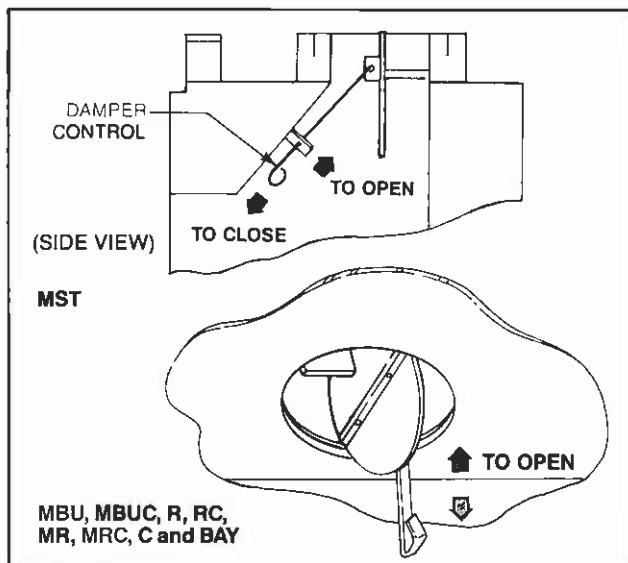

Fig. 13. MBU, MBUC, R, RC, MR, MRC, C and BAY damper control.
**MBU, MBUC, R, RC, MR, MRC, MST and BAY Series Damper.** The flue damper is 'opened' and 'closed' by a rod lever located in the front dome area of the firebox. The damper is not adjustable and must be operated in the fully open or fully closed position. (See Fig. 13.)